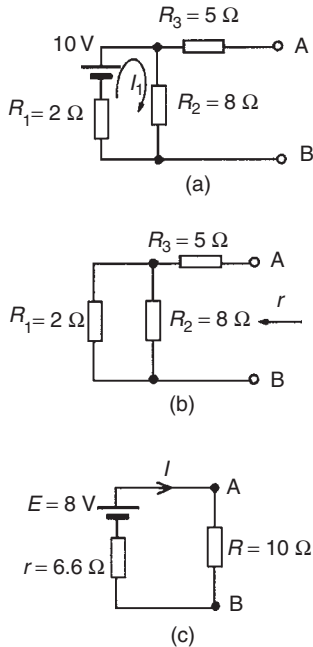

Figure 13.38
- (i) The 10Ω resistance is removed from the circuit as shown in Fig. 13.38(a)
- (iii) Removing the source of e.m.f. gives the circuit of Fig. 13.38(b) Resistance,
- (iv) The equivalent Thévenin's circuit is shown in Fig. 13.38(c)